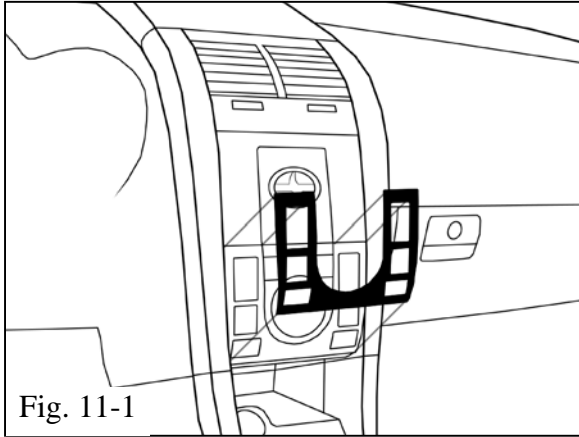

Fig. 11-1
- (1) Align cutouts around buttons and dials.
- (2) Align part uniformly to edge of factory component. Edge of appliqué should be flush to edge of factory component,  $\pm 1.0\text{mm}$ . (Fig. 11-1)
- (3) Gently touch part into position.